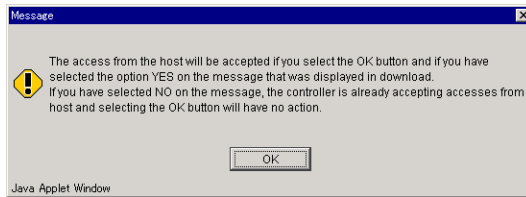

Figure 9.49 Message Dialog Box
5. After the microprogram download, the following message displays. See Figure 9.49. Check the contents of the message and click **OK**.